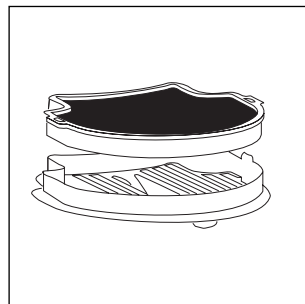

Fig. 20
- Remove the back filter (fig. 20).